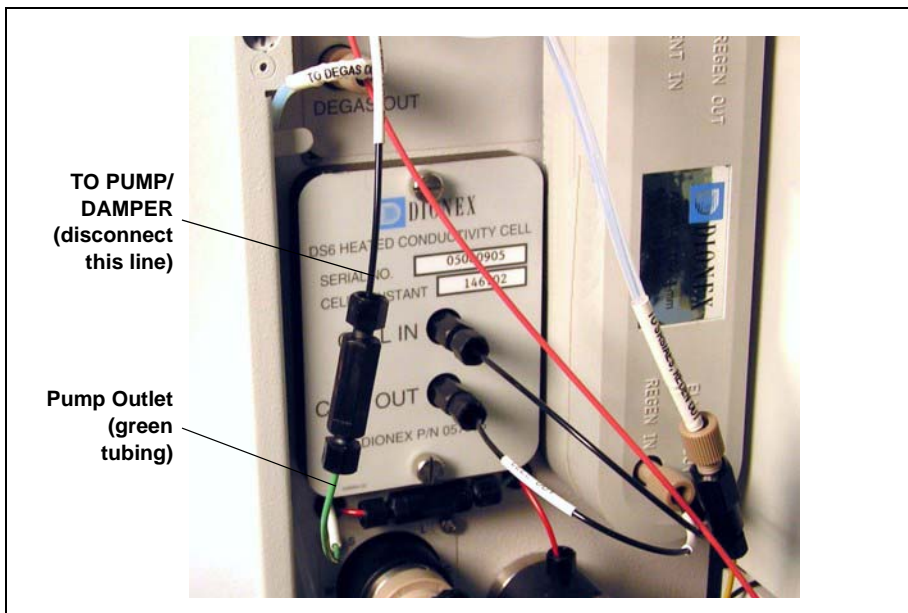

Figure 70. EluGen Cartridge Inlet and Pump Outlet
2. Disconnect the EluGen cartridge inlet line (labeled **TO PUMP/DAMPER**) from the coupler that connects it to the green pump outlet line (see Figure 70).